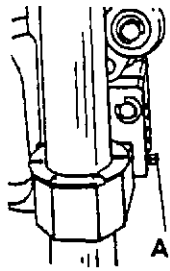
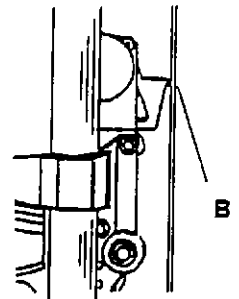

Figure 22
Figure 23
2. The **ROCKER ARM ADJUSTING SCREW (A)** in Figure 22 determines the "at rest" position of the **ROCKER ARM**; that is, the position of the cutting tools when the **SHORT THUMB LEVER** is not depressed. Set this screw so the glass cutting wheel is about .020" from the vertical extrusion of the machine. You may judge this by looking from the right side, Figure 23 (B). The wheel should not enter the groove, but should be close enough to contact the thinnest glass to be cut. This position of the **ROCKER ARM** will also insure the mat/mount board blade will enter the groove, but not touch the aluminum at the bottom of the groove.